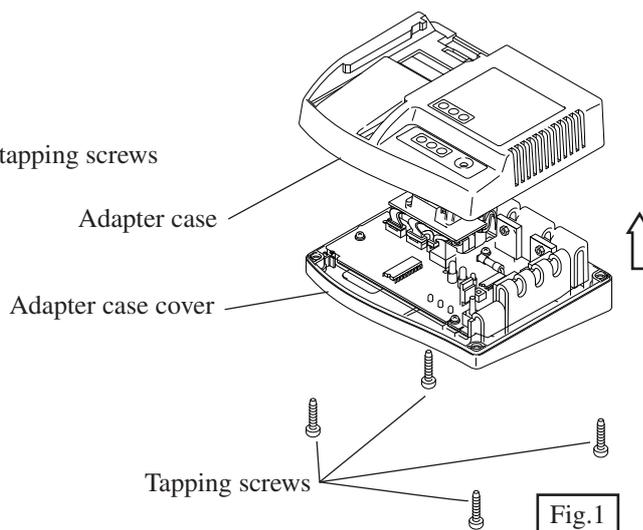

Fig.1
(1) Remove adapter case by taking off 4 tapping screws as illustrated in Fig.1.